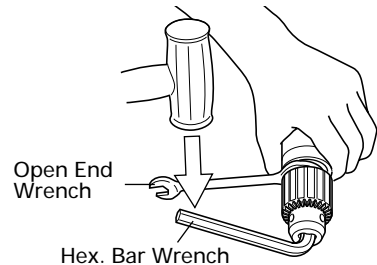

Fig. 13
- (4) Removing chuck from angle unit (Fig. 13)